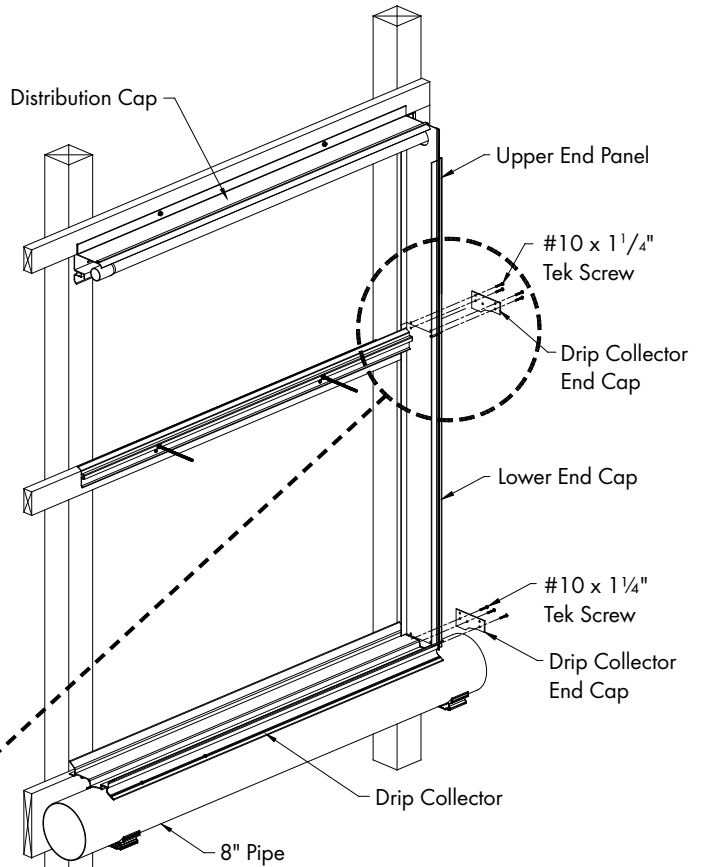

Figure 6A
On right side of system apply PVC cement to end of Drip Collector and line up the 3 holes in the Drip Collector End Cap to the 'U' Channels in the Drip Collector, fasten using (3) #10 x 1¼" TEK Screws (provided). See Figure 6A.
Slide right Upper End Panel into framing and stack on top of right Lower End Panel. Connect lower & upper End Panels using Drip Collector End Cap and (4) #10 x 1¼" TEK Screws (provided). See Figure 6A and 6C. Hold the upper End Panel tightly against the framing and attach End Panel to framing using #10x1¼" TEK Screws (provided). See Chart C, page 11 for spacing and number of Screws provided.